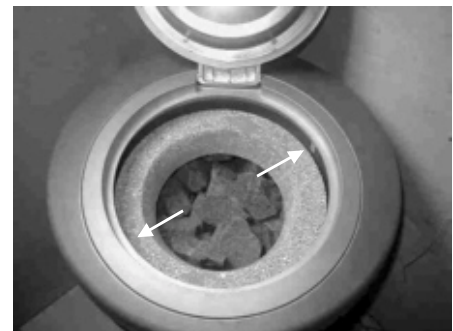

Bild 3
- Loosen the allen screws (2 pcs, see arrows in figure 3) on the inside circumference of the rotating ring so that the rotating ring can be lifted away. NOTE! Don't loosen the screws entirely as they may fall inside the heater.
- Next install the rotating ring with lids into its location (see figure 3).